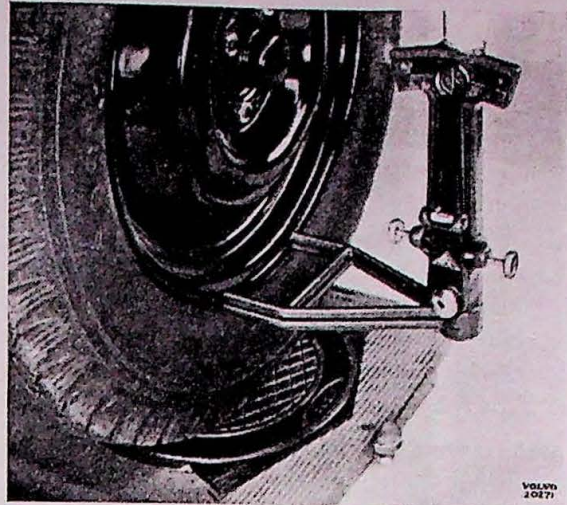

Fig. 35.
1. Turn wheels straight ahead. Set the scale of the instrument at right angles with the wheel (see fig. 35).